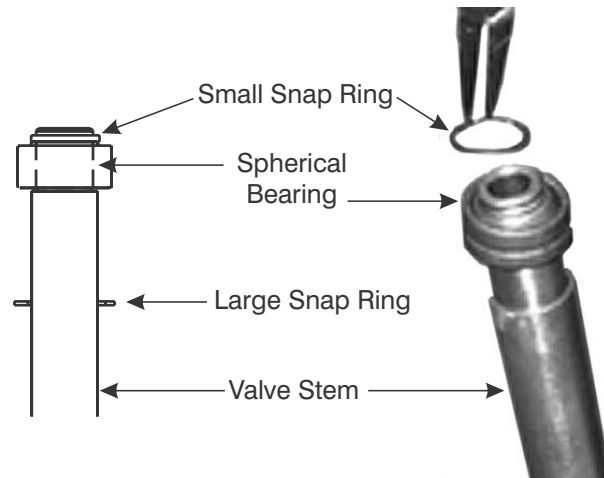

Figure 8-31. Snap Ring Secures Spherical Bearing
6. The Spherical Bearing is secured to the Valve Stem by the smaller Snap Ring, as shown in Figure 8-31.
7. Use needle-nose or retaining ring pliers to expand and remove Snap Ring (14) from the Valve Stem (5) as shown in Figure 8-31. Discard the Snap Ring.